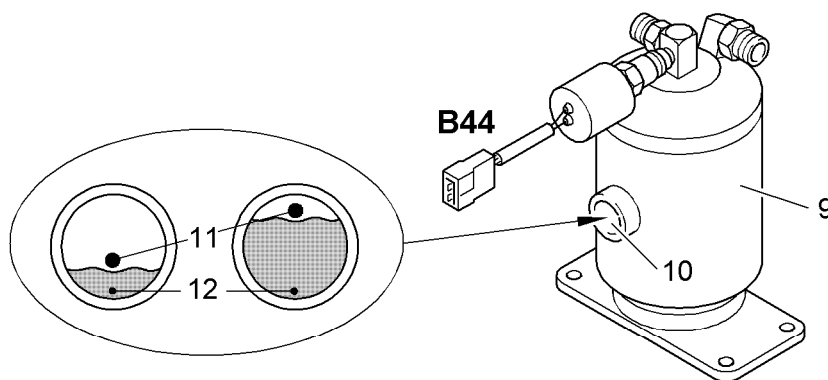

Fig. 5-61 Dryer-accumulator unit
- ▶ Check the function of the pressure switch **B44** on the dryer-accumulator unit **9** (siehe Fig. 5-61).